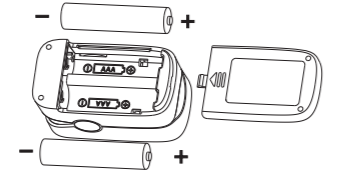

Figure 2 Battery Installation
- Put the two AAA batteries into battery compartment in correct polarities (Figure2).